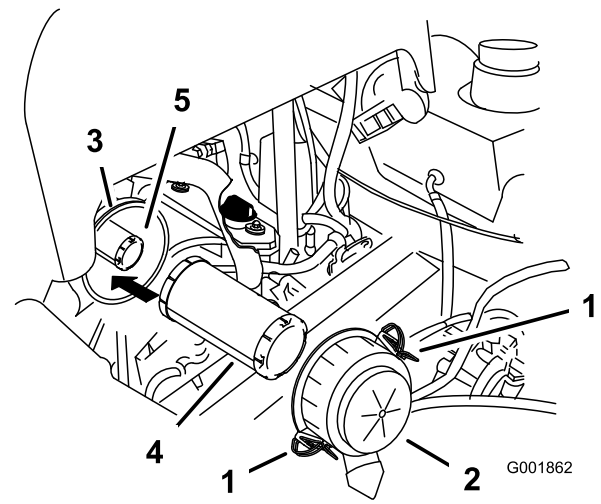

Figure 40
4. Release the latches on the air cleaner and pull the air cleaner cover off of the air cleaner body (Figure 40).
6. Gently slide the primary filter out of the air cleaner body (Figure 40). Avoid knocking the filter into the side of the body.
1. Do not clean the paper filter, replace it (Figure 40).
2. If the safety filter is being replaced, carefully slide it into the filter body (Figure 40).
3. Carefully slide the primary filter over the safety filter (Figure 40). Ensure that it is fully seated by pushing on the outer rim of the filter while installing it.
- Install the air cleaner cover with the side indicated as UP facing up and secure the latches (Figure 40).